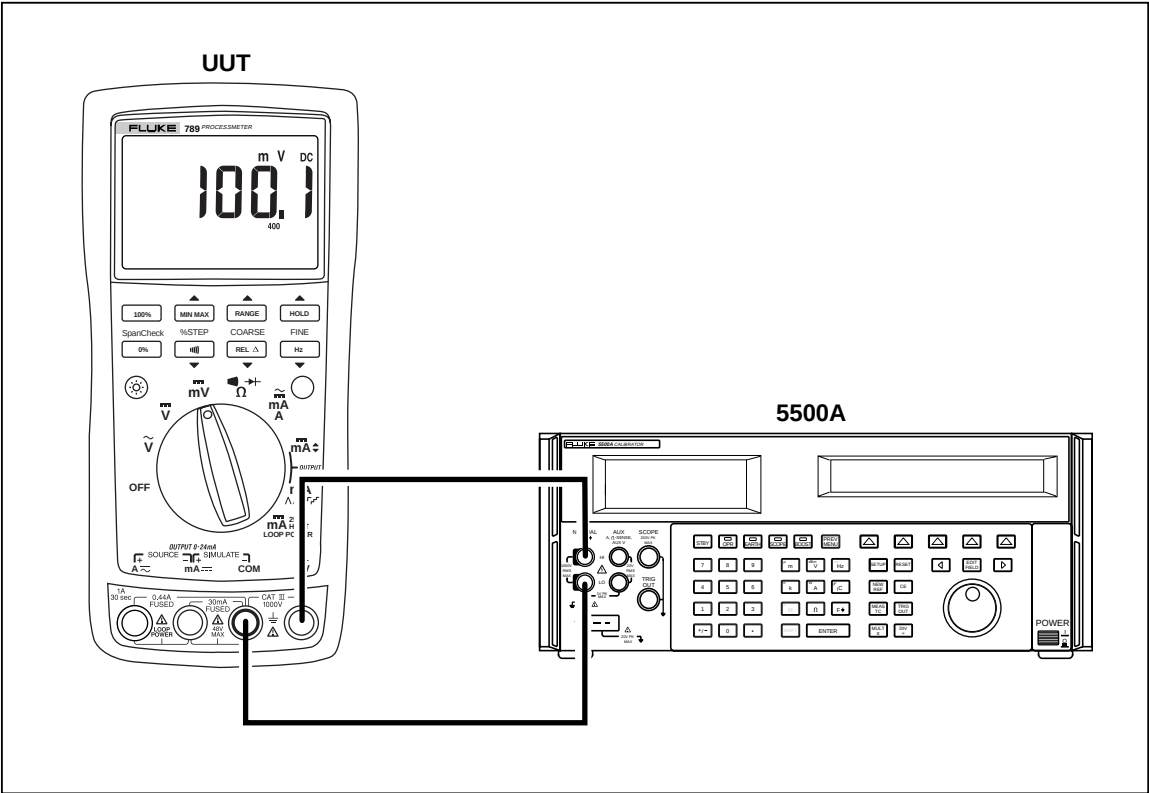

Figure 8. DC mV Measurement Test Connections
- 3. Connect the calibrator to the **COM** and $\overline{\Omega V}$ terminals on the UUT as shown in Figure 8.